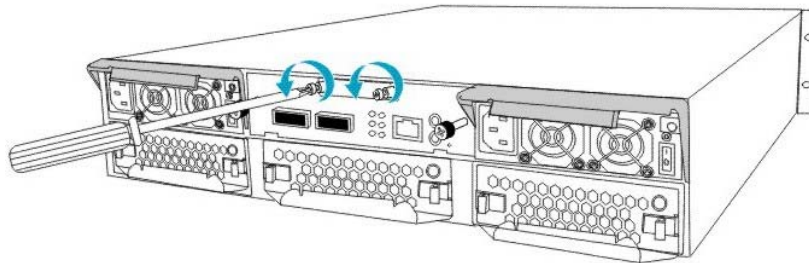

Figure 5-6: Removing the BBU
Step 1. Remove the faulty unit from the chassis by using a medium-sized Phillips screwdriver to loosen the retention screw, then pulling out the BBU. (See **Figure 5-6**)